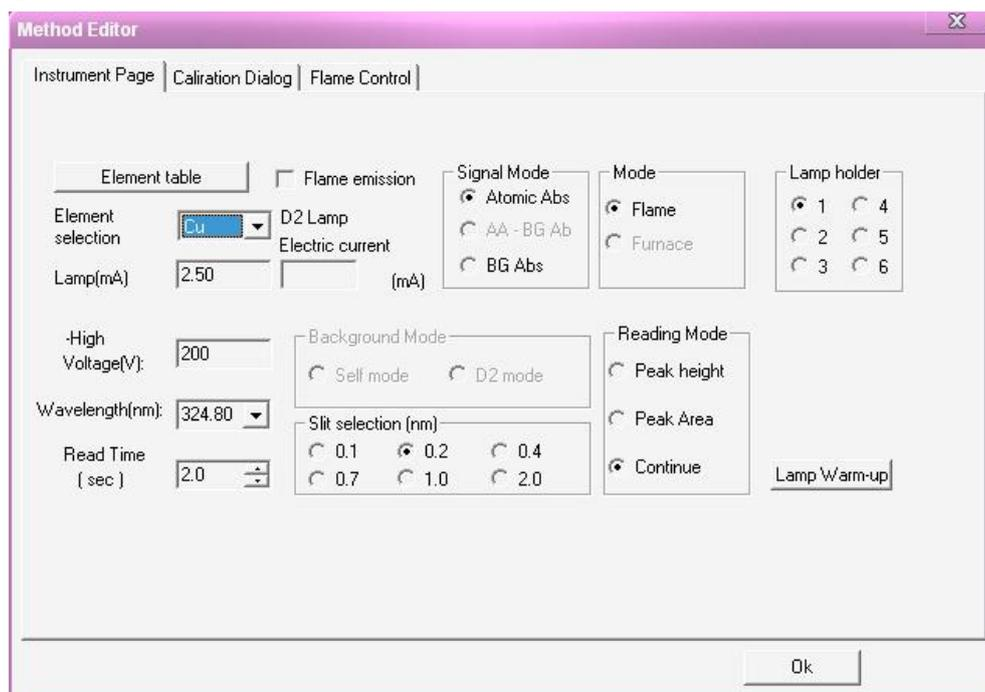

Figure 5-1a
3. Input the appropriate "Read Time" value in the "Instrument Page" window, select appropriate "Reading Mode" (Figure 5-1a)
4. Select "Quantification Analysis" in the "Measurement Mode" (Figure 5-1a)